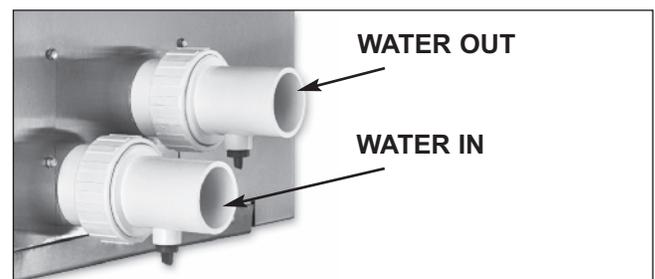

Fig. 3: Water Connections
6. Drain plugs are located on each union fitting as shown in Fig. 3 for draining the system during winterizing.
NOTE: While it is possible to mount the upper union with the drain plug vertically, Raypak has determined that installing both unions with the drain plugs facing down as shown in Fig. 3 provides for the best draining of the system.